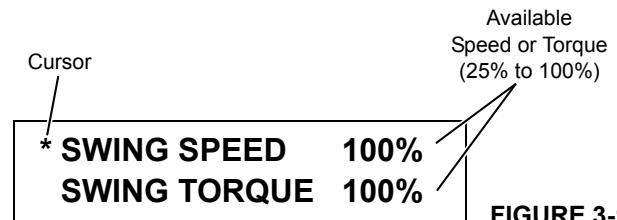

FIGURE 3-17
- Scroll up at least one screen, release key, and scroll up or down through diagnostic screens until swing speed/swing torque screen appears (Figure 3-17).